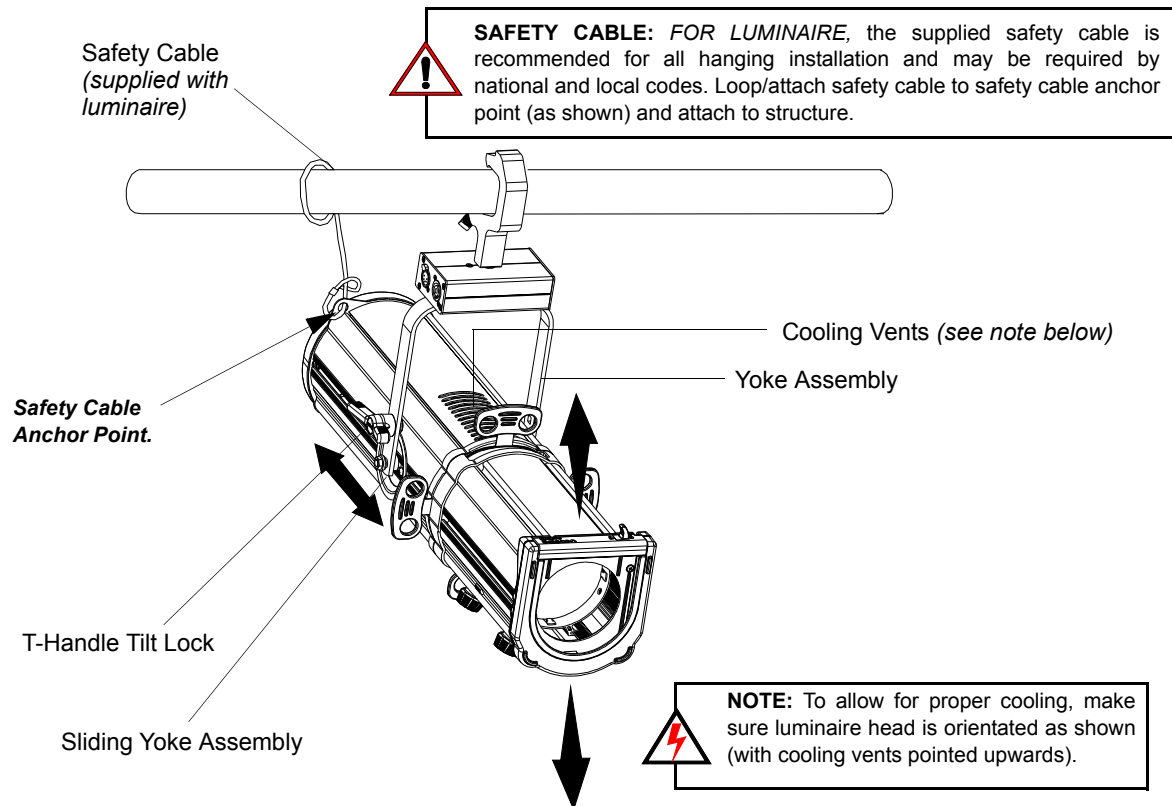

Figure 6: Luminaire Tilt Adjustment
The supplied safety cable **MUST** always be used when rigging luminaires on bars, truss, etc. (as shown in Figure 6). The supplied safety cable is recommended for all hanging installation and may be required by national and local codes. Loop or attach safety cable to luminaire safety cable anchor point as shown and attach to structure. You should always consult and follow all local and national codes and regulations for mounting and installation of luminaire.
PLPROFILE1 MKII LED Luminaires offer variable tilt settings. The unit can be set at a specific angle (in relation to its mounting position) or at an angle between 0 to 90 degrees. When the yoke is in the position shown in Figure 6, you have full range access to shutters the gate etc. If you flip the yoke over some access is reduced but the over all volume the luminaire takes up is reduced. This is particularly useful in tightly hung lighting positions or in theatres with low grids.
- Step 2. Loosen, but do not remove, T-Handle Tilt Lock at base of yoke assembly as shown in Figure 6.